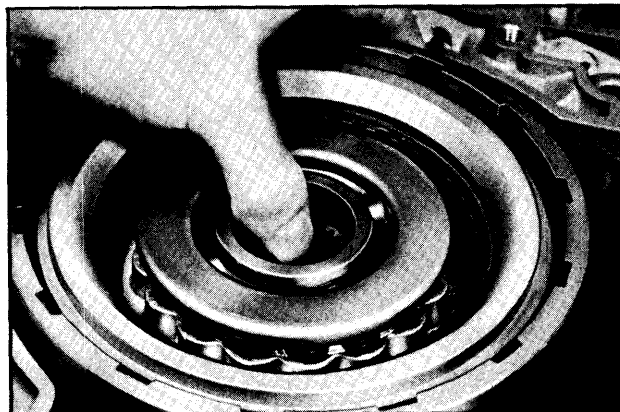

Fig. 7E-71 Removing Direct Clutch
8. Install proper front unit end play phenolic selective thrust washer on the hub of the driven sprocket support housing. Use micro-meters to determine the actual thickness of the phenolic thrust washer. (Fig. 7E-65)